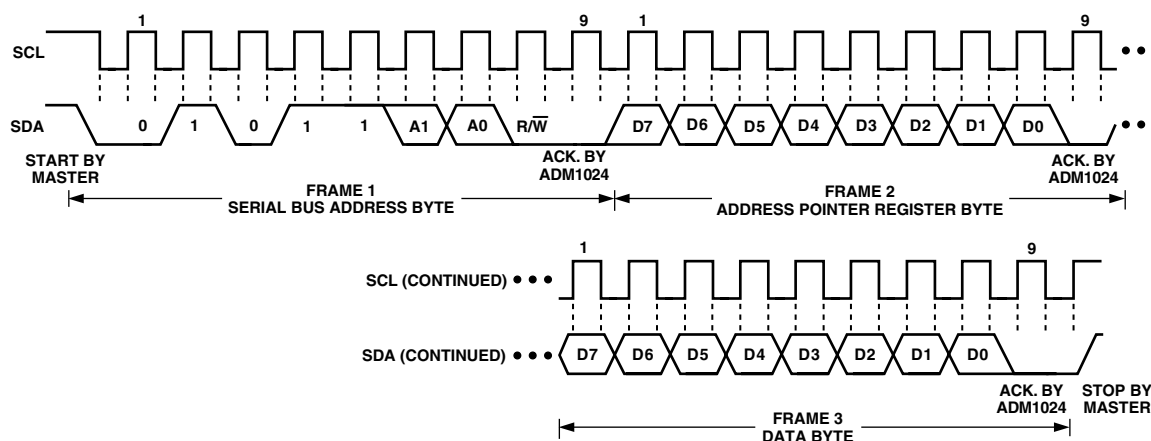

Figure 9a. Writing a Register Address to the Address Pointer Register, then Writing Data to the Selected Register
To write data to one of the device data registers or read data from it, the Address Pointer Register must be set so that the correct data register is addressed, then data can be written into that register or read from it. The first byte of a write operation always contains an address that is stored in the Address Pointer Register. If data is to be written to the device, the write operation contains a second data byte that is written to the register selected by the address pointer register. This is illustrated in Figure 9a. The device address is sent over the bus followed by $R/\overline{W}$ set to 0. This is followed by two data bytes. The first data byte is the address of the internal data register to be written to, which is stored in the Address Pointer Register. The second data byte is the data to be written to the internal data register.
2. In Figures 9a to 9c, the serial bus address is shown as the default value 01011(A1)(A0), where A1 and A0 are set by the three-state ADD pin.